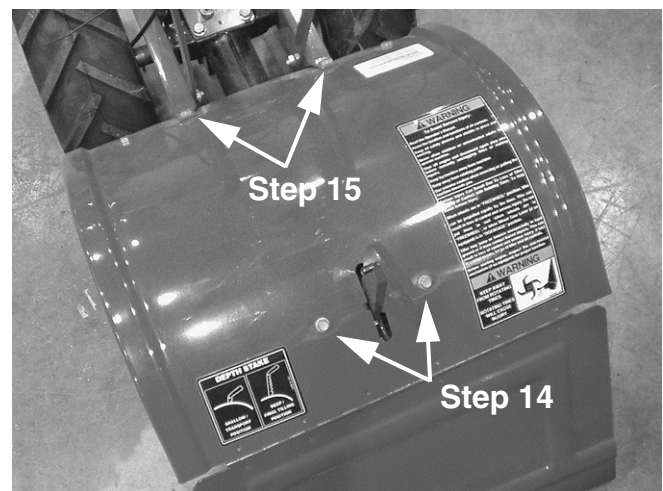

FIGURE 6
13. Using a 1/2" socket and ratchet and a 1/2" box wrench, remove the four (4) 5/16" bolts and lock nuts securing the engine to the engine mounting frames. Remove the engine from the tiller.
14. Using a 3/8" socket and ratchet remove the two self tapping bolts securing the tine hood assembly to the left and right hood brackets. See Figure 6.
15. Using 1/2" socket and ratchet and a 1/2" box wrench, remove the 5/16" bolts and nuts securing the hood assembly to the engine mounting frames. See Figure 6.